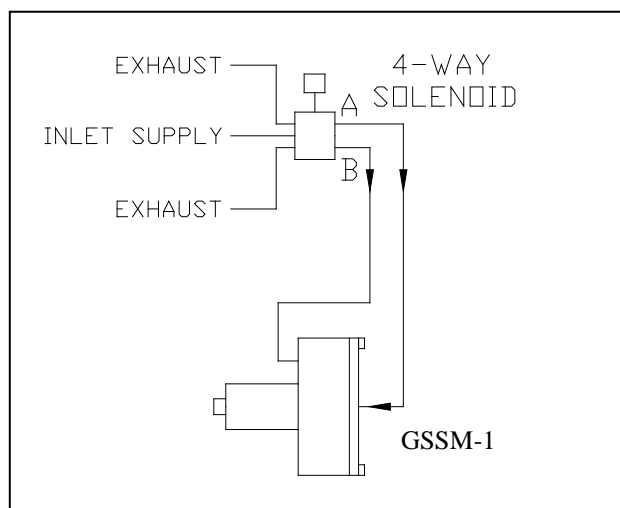

FIGURE 3
- 2.2.8 Connect the normally open port (stamped A or NO on most solenoids) of the 4-way solenoid to the top of the double-acting piston motor with 1/4" or 3/8" stainless steel tubing (see Figure 3).